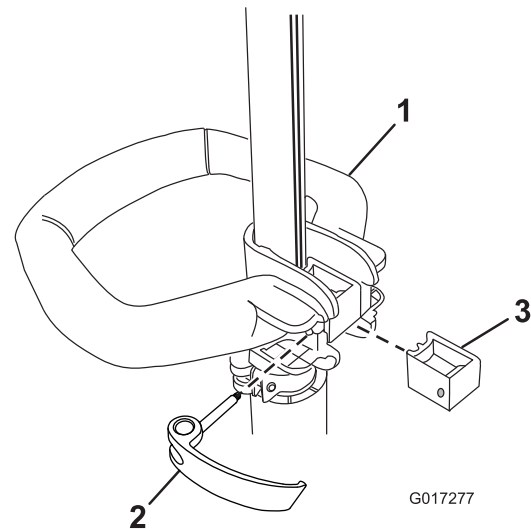

**Figure 3**
2. Cut the cable tie and remove it from the trigger handle (Figure 3).